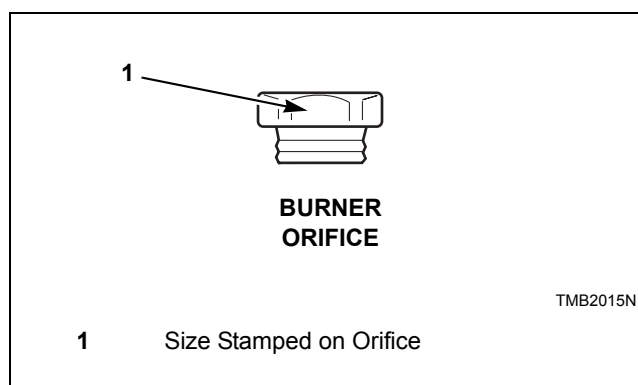

Figure 13
3. Install the new, correct burner orifice(s). Refer to *Figure 13* and *Table 1*. Torque each to 9 – 10 Nm.
4. Reinstall spud holder assembly to gas valve, making certain burner orifice(s) are in line with burner tube opening. Refer to *Figure 13*.